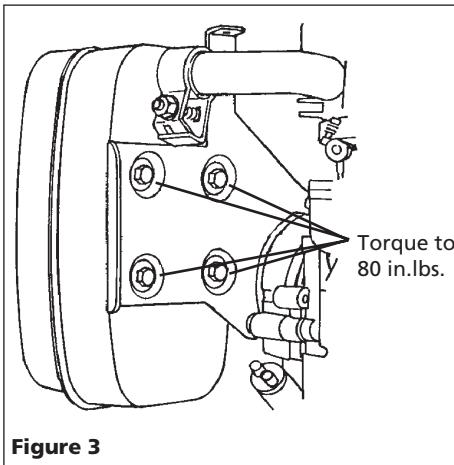

Figure 3
8. Coat four (4) muffler mounting screws with anti-seize compound. slide muffler inlet onto exhaust pipe and install four (4) muffler mounting screws (See Figure 3).